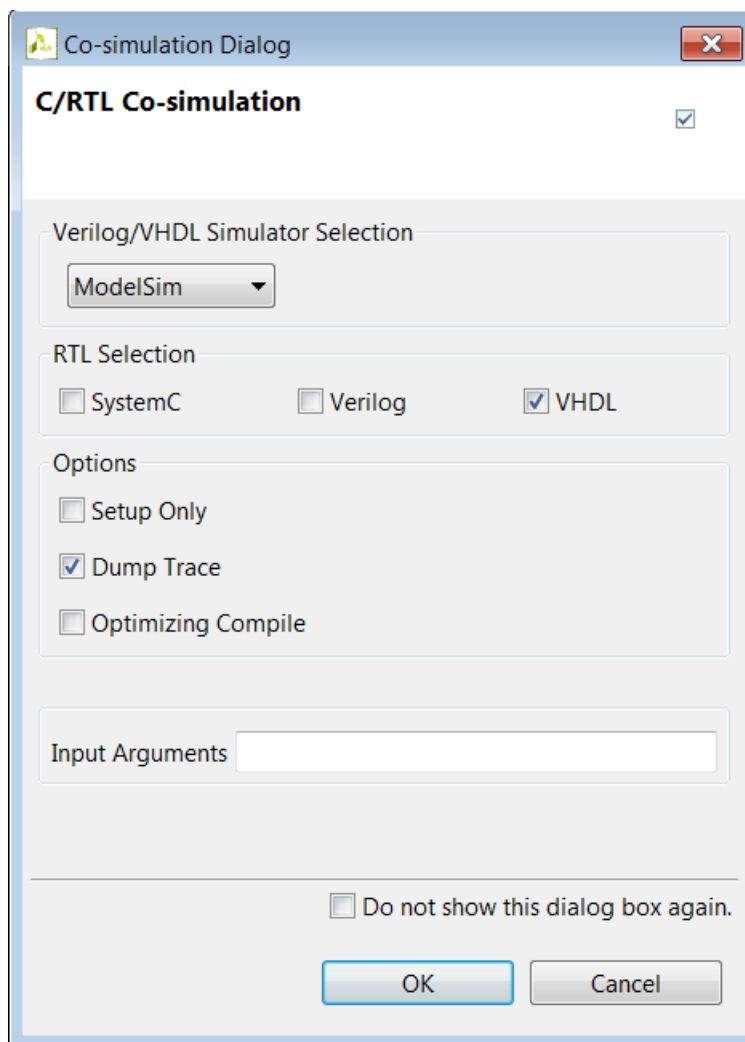

Figure 179: Cosimulation Dialog Box For Lab 3
- d. Select the **Dump Trace** option, to have the options shown in Figure 179.